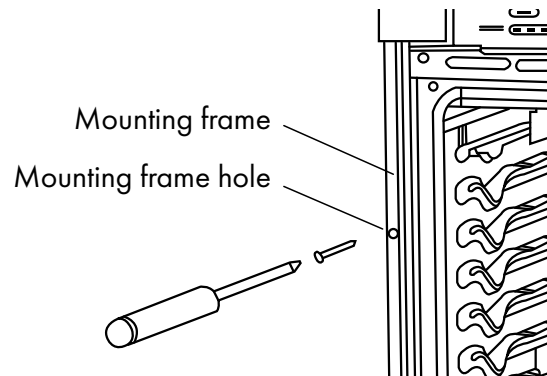

Figure 1
3. Insert the four #8–14 x 1" screws (provided) through the pilot holes to securely fasten the upper and lower ovens to the cabinet (Figure 1). Do not overtighten screws.